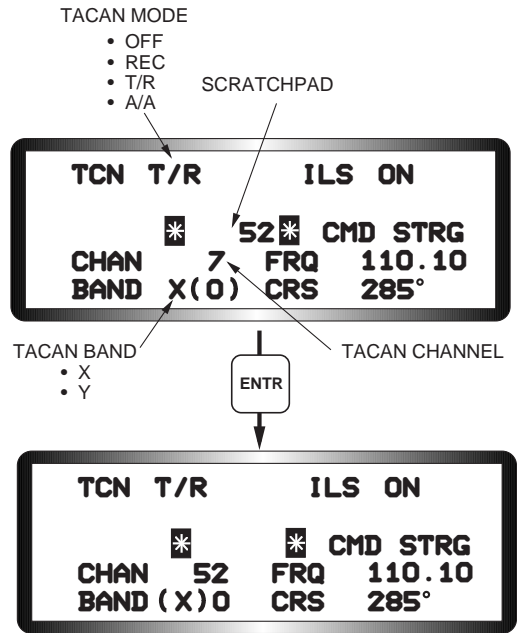
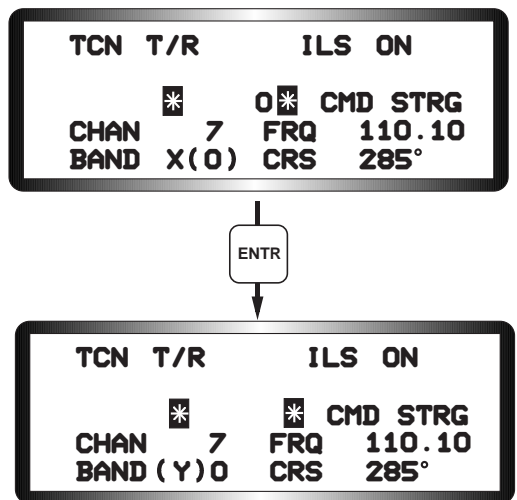

Figure 2-19 Changing TACAN Channel
Figure 2-20 Changing TACAN Band
the UFC. The pilot selects the TACAN/ILS page by pressing the T-ILS button (1) on the ICP. The asterisks will initialize about the scratchpad. TACAN modes are selected by dobbering right. To change a TACAN channel, the pilot keys in the desired channel (one to three digits) and presses ENTR. After TACAN channel entry, the asterisks will remain about the scratchpad (Figure 2-19). To change TACAN band, enter “0” in the scratchpad and press ENTR (Figure 2-20).
To change TACAN band, enter “0” in the scratchpad and press ENTR (Figure 2-20).